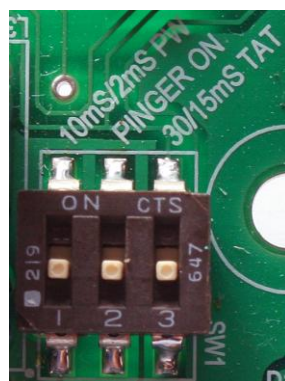

FIGURE 6
- 2) Set the transmitted pulse width (PW) to 10mS using switch SW1, see FIGURE 6.
- 3) Set the TAT to 30mS by using switch SW1, See FIGURE 6.